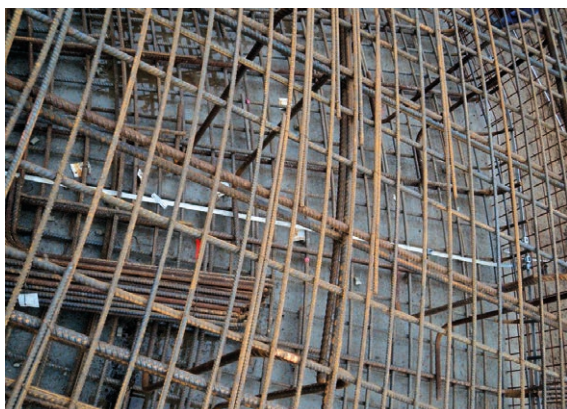

Figure 5 Reinforcement connected to the earth-termination system at intervals of 2 m
- ➔ The galvanised strip steel is clamped to the reinforcement at intervals of 2 m (**Figure 5**).